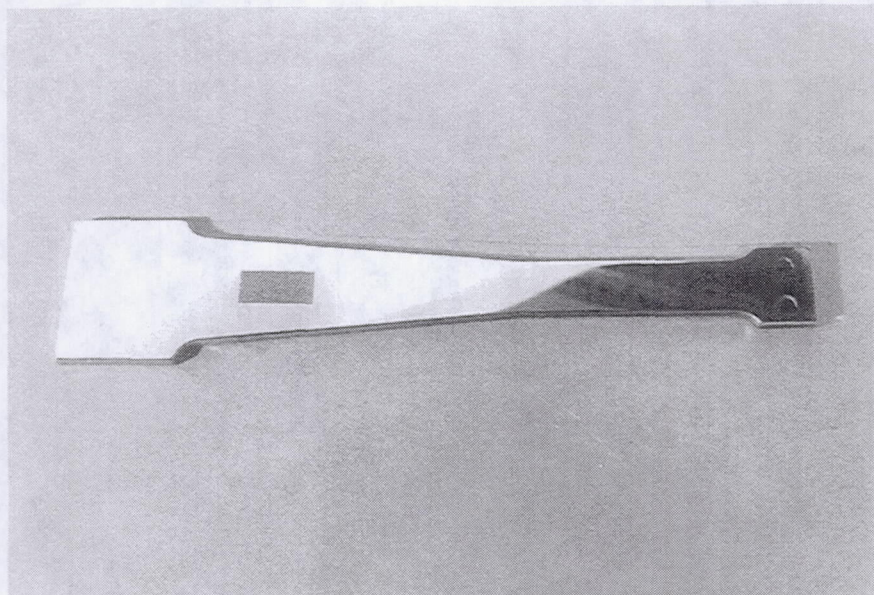

FIGURE 2. Nickel chrome aluminum precoat applied to gage bond area.
- Figure 2. Nickel chrome aluminum pre-coat applied to gage bond areas.